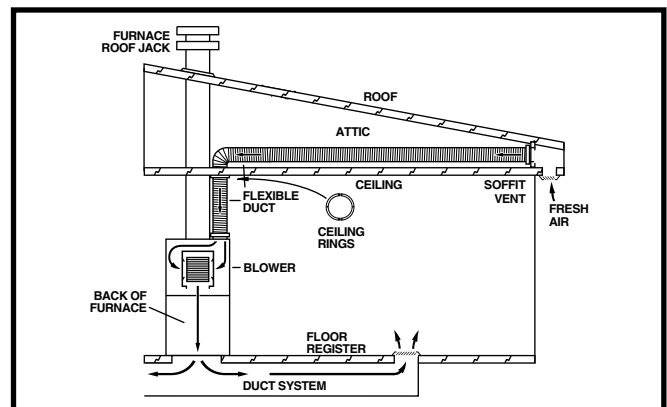

Figure 5. General Install Setup
6. Route flexible duct through ceiling hole between the roof opening and the furnace area. See Figure 5.